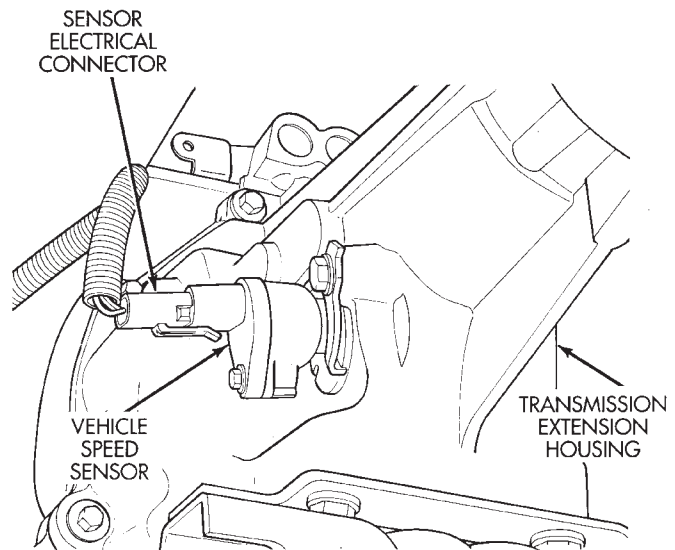
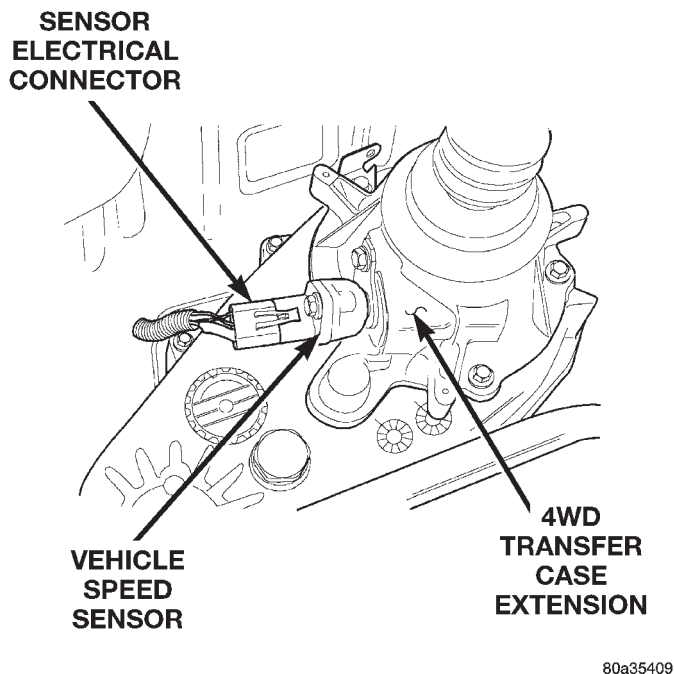

Fig. 44 Vehicle Speed Sensor—2WD—Typical
Fig. 45 Vehicle Speed Sensor—4WD—Typical
(25) Verify that the electrical harness connector is firmly connected to the vehicle speed sensor (Fig. 44) or (Fig. 45).